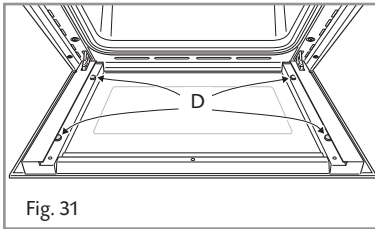

Fig. 31
- Check that the four rubber pads are in place (**D** in fig. 31).